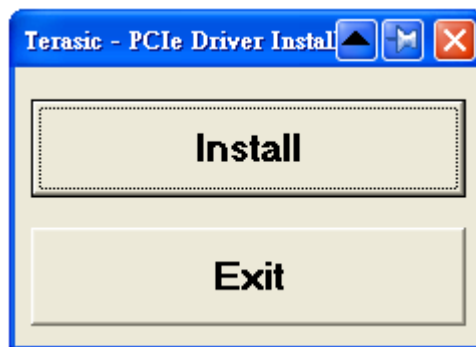

Figure 6-9 PCIe Driver Installation Program
2. Double click the “PCIe_DriverInstall.exe” executable file to launch the installation program shown in **Figure 6-9**.